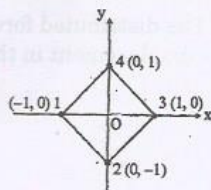
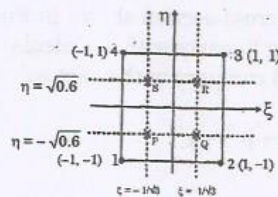

Fig. 4 Quad. 4 element
Fig. 5 Parent element in  $\xi$ - $\eta$  plane
- For the 4 noded quadrilateral element shown in Fig. 4, calculate the Jacobian. The parent element is shown in Fig. 5.